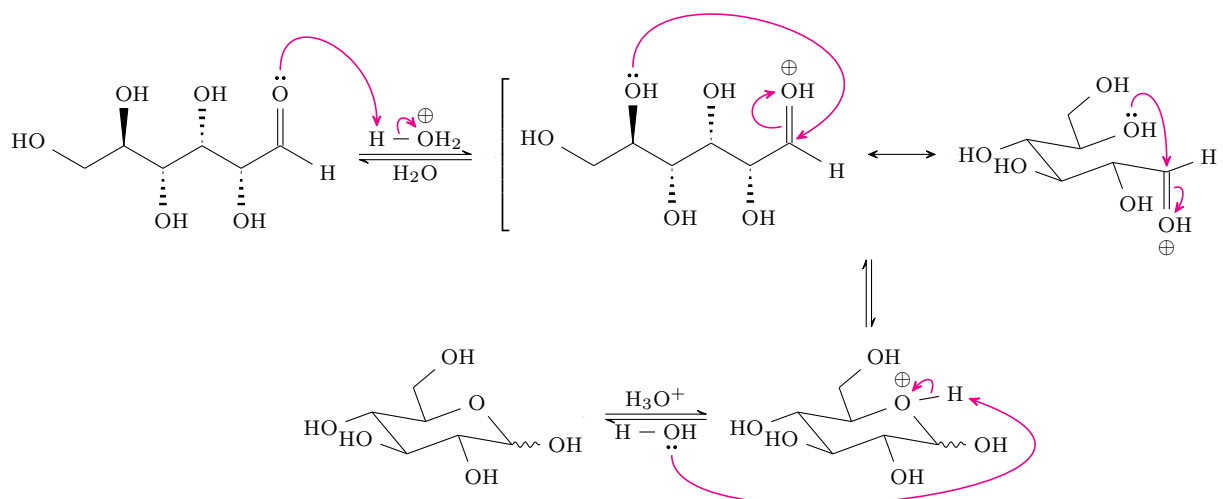

Figure 8.8: Glucose ring-closing mechanism.
- This process is just hemiacetal/hemiketal formation, as we can see by observing the similarities between Figure 8.8 and the first three steps of Figure 1.14.
- Note that the six-membered ring form of D-glucose (see the end product in Figure 8.8) contains a hemiacetal.